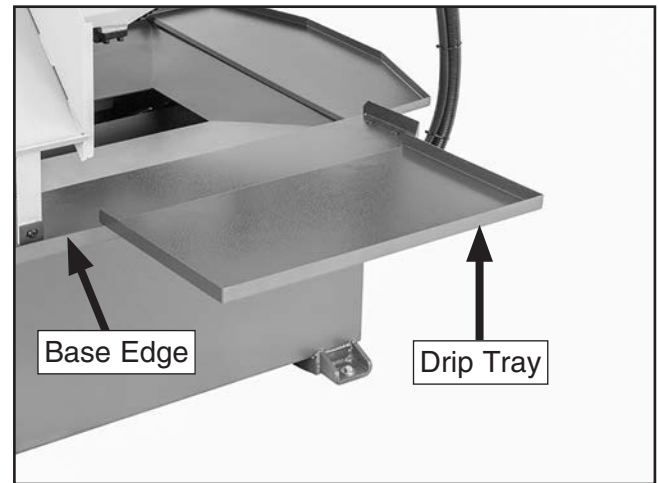

Figure 14. Drip tray positioned on base edge.
10. Position drip tray on base edge, as shown in **Figure 14**.